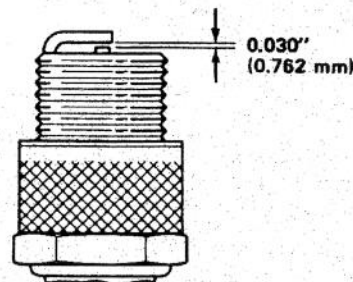

Figure 20
5. Set air gap between center and side electrodes at 0.030 of an inch (0.762 mm) (Fig. 20). Install correctly gapped spark plug w/gasket seal, and